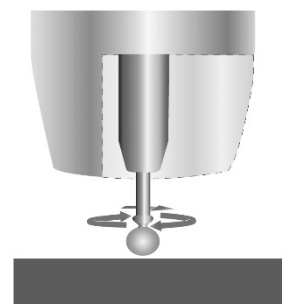

Fig. 29
3. The current flow creates a magnetic field that begins to pinch the melting wire forming it into droplet (Fig. 29).